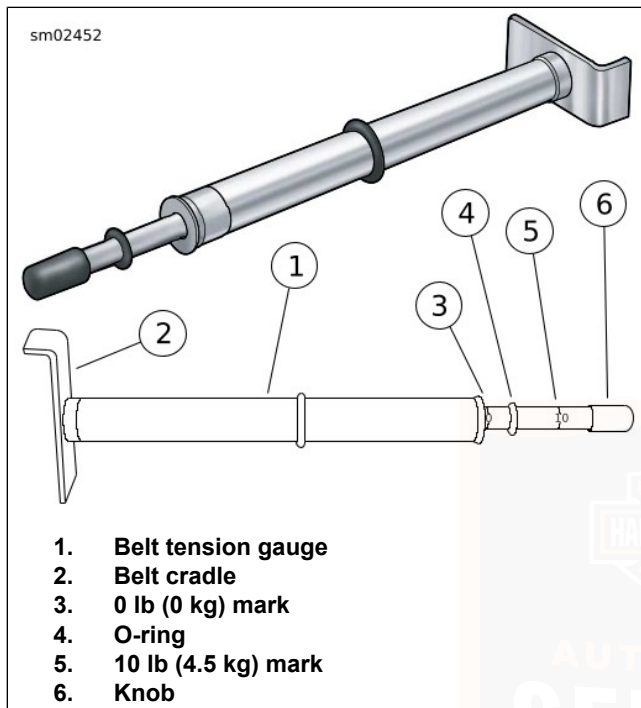
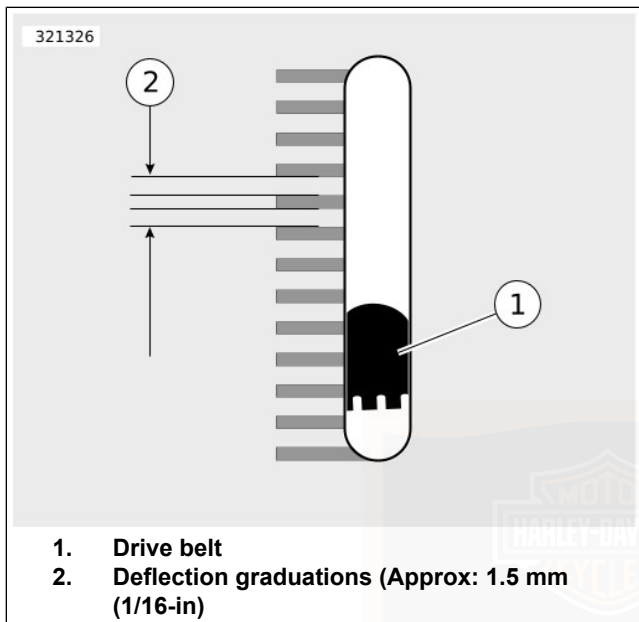

Figure 58. Belt Tension Gauge
Figure 60. Belt Deflection Window
3. See Figure 58. Measure belt deflection using BELT TENSION GAUGE (PART NUMBER: HD-35381-A):
- a. Slide O-ring (4) to zero mark (3).
- b. **Models equipped with belt deflection window:** Fit belt cradle (2) against bottom of drive belt in line with belt deflection window.
- c. **All other models:** Fit belt cradle (2) against bottom of drive belt halfway between drive pulleys.
- d. Press upward on knob (6) until O-ring slides down to 4.54 kg (10 lb) mark (5) and hold steady.
- a. **Models equipped with belt deflection window:** See Figure 60. Measure belt deflection as viewed through belt deflection viewing window while holding gauge steady. Each deflection graduation is approximately 1.6 mm (1/16 in).